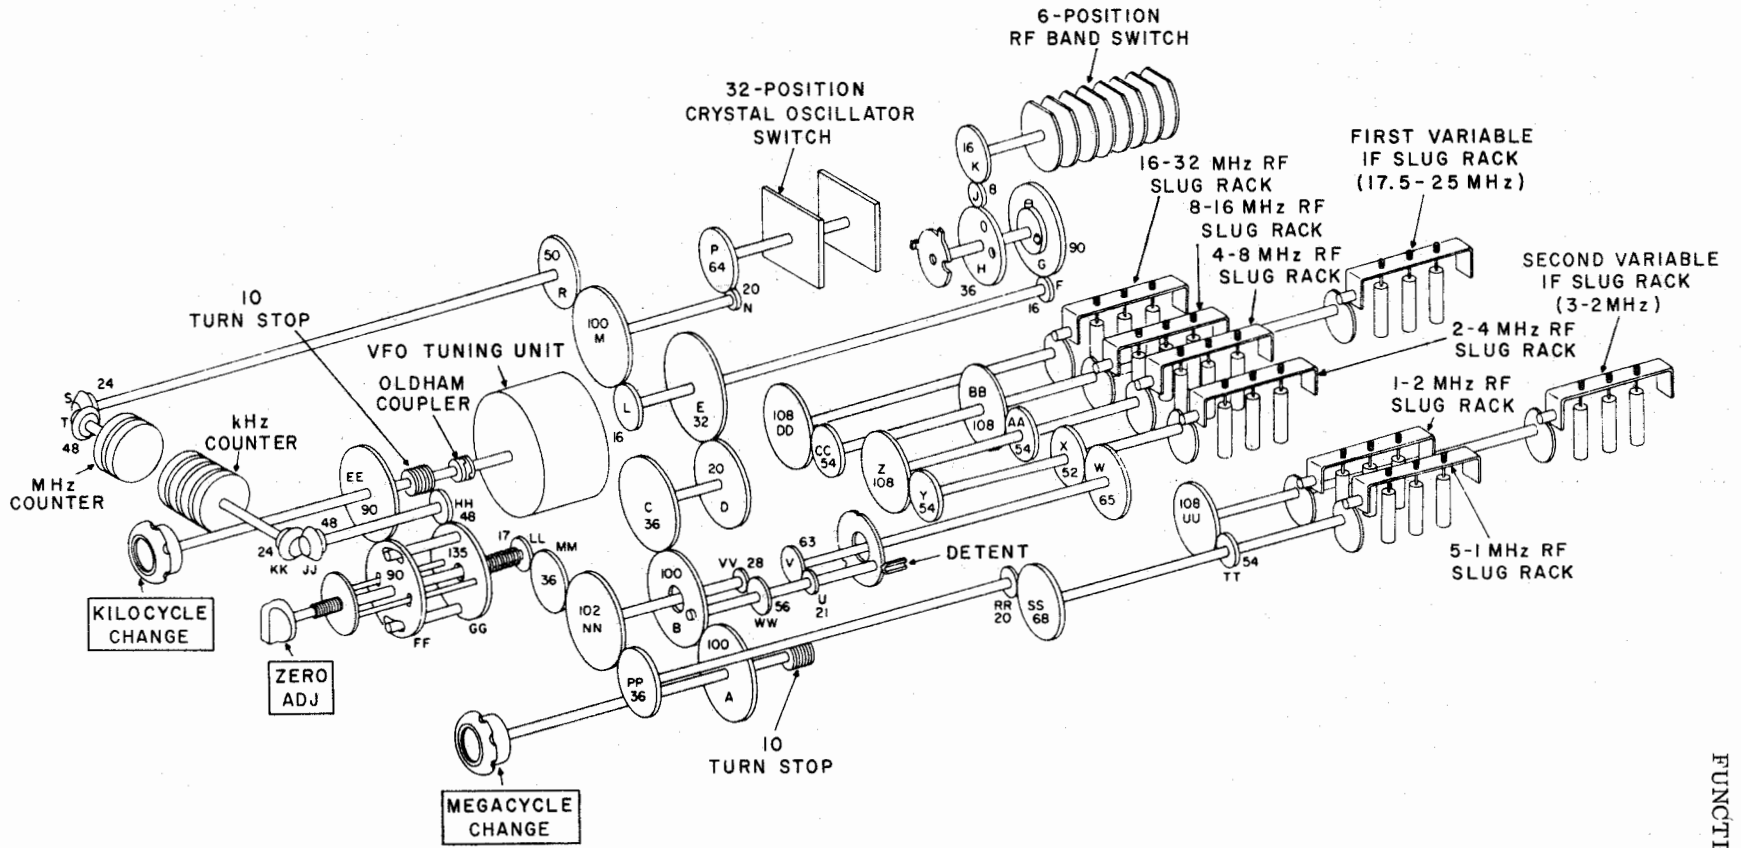

Figure 3-10. Tuning System, Simplified Mechanical Diagram
3.3.2 Detailed Mechanical Analysis. (See figure 3-10). The gears in the illustration are identified by letter designations. The numbers indicate the number of teeth in each gear. The cams that furnish motion to the slug racks are shown as single units; actually, each slug rack has a roller at both ends and identical cams mounted on each end of the cam shaft.